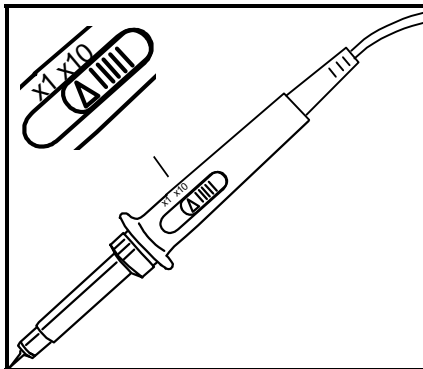

Fig 25 Press the ‘Probe x1/x10’-key to set the measurements accordingly the **x1/x10**-probe setting. (Fig. 25)
- At 1s/div timebase or slower, the readouts are forced to the instant information. ‘Vs’ (Fig. 25)